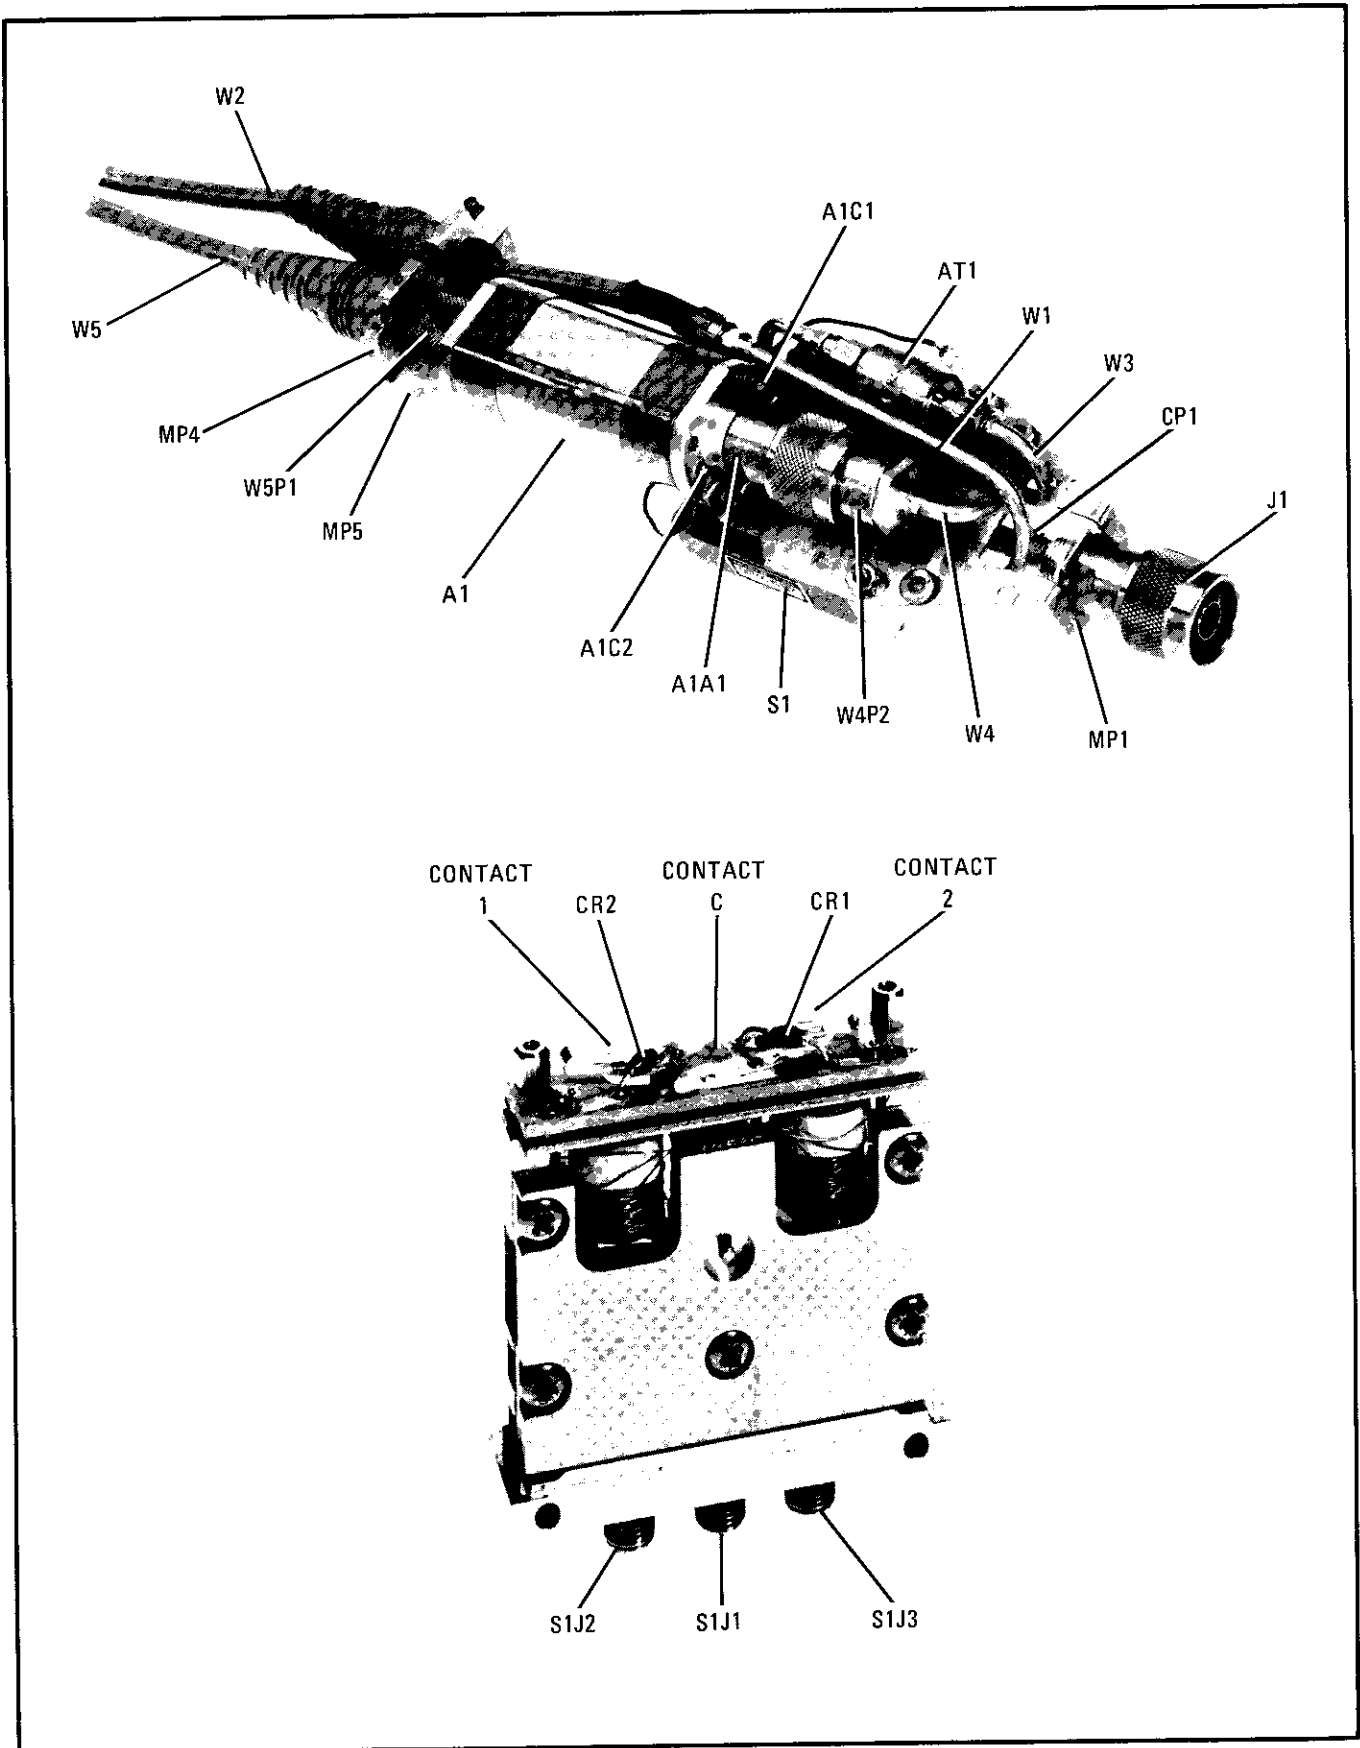

Figure 3. Sensor Module Component Locations
2. Remove the two screws on the cover of S1 and remove the cover. (See Figure 3, "Sensor Module Component Locations" in Service Sheet 1.)